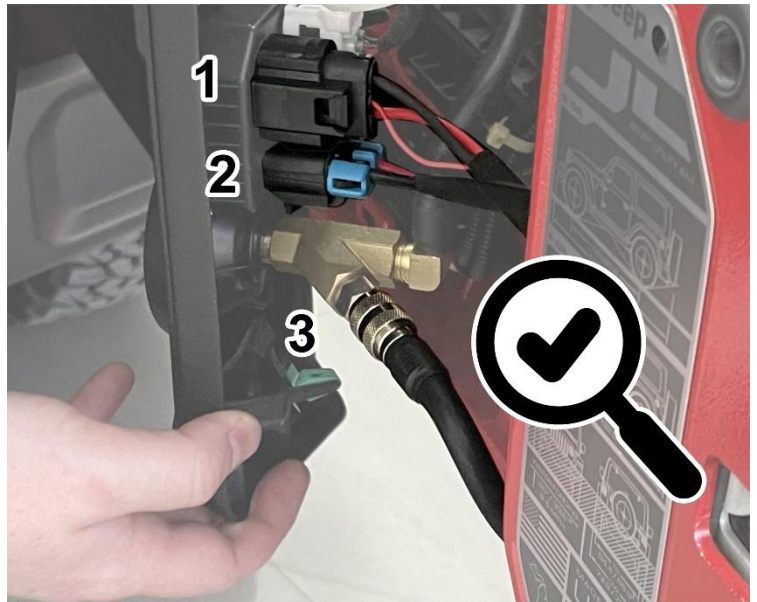

Figure 23 – Electrical Connectors and Air Hose Connection
41. Reconnect the electrical wire harness connectors and the air hose to the door module assembly (Figure 23).